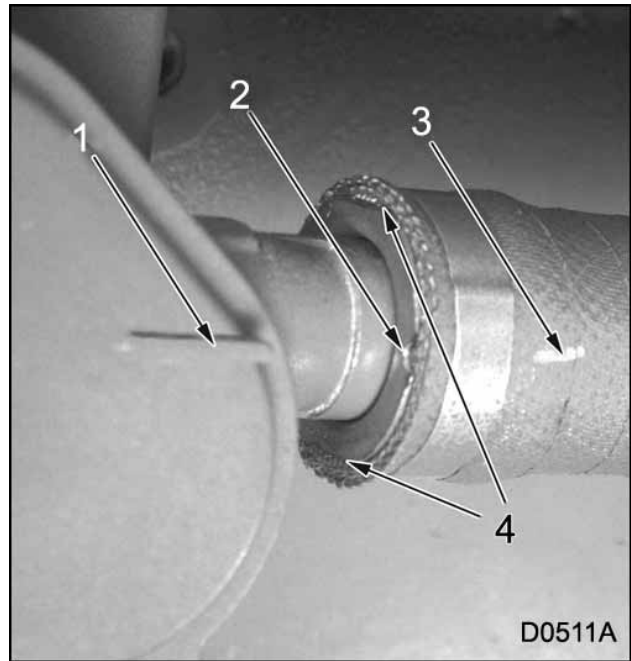

Figure 118 EGR coolant inlet coupling alignment (unlocked position)
8. Connect the EGR coolant inlet coupling by aligning the single index mark (if visible) or recess on the end of the coupling with index feature on the oil cooler cover (Figure 118).